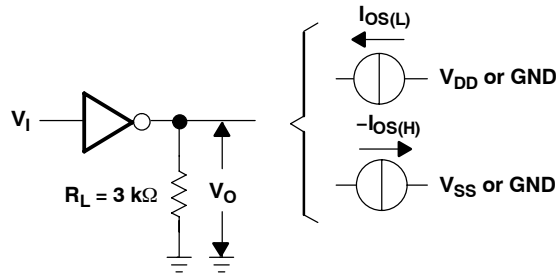

Figure 1. Driver Test Circuit for  $V_{OH}$ ,  $V_{OL}$ ,  $I_{OS(H)}$ , and  $I_{OS(L)}$
| $V_{OH}$ High-level output voltage                                 | $V_{IL} = 0.8\text{ V}$ , $R_L = 3\text{ k}\Omega$ , See Figure 1   | 6    | 7.5  |       | V             |
| $V_{OL}$ Low-level output voltage (1)                   | $V_{IH} = 1.9\text{ V}$ , $R_L = 3\text{ k}\Omega$ , See Figure 1   |      | -7.5 | -6    | V             |
| $I_{OS(H)}$ High-level short-circuit output current (2) | $V_{IL} = 0.8\text{ V}$ , $V_O = 0$ , See Figure 1                  | -4.5 | -12  | -19.5 | mA            |
| $I_{OS(L)}$ Low-level short-circuit output current                 | $V_{IH} = 2\text{ V}$ , $V_O = 0$ , See Figure 1                    | 4.5  | 12   | 19.5  | mA            |